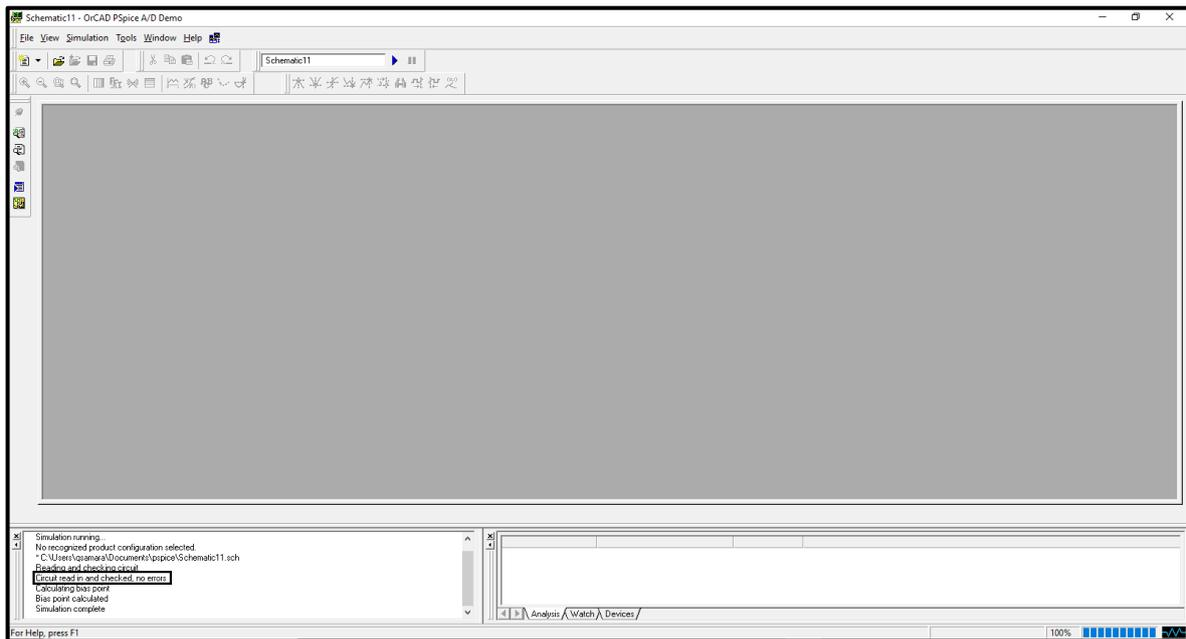

Figure.10
- When you click on “simulate” button the window shown in figure.10 will show up (simulation output window), if your circuit doesn't have any errors you will see the message in the box in figure.10.